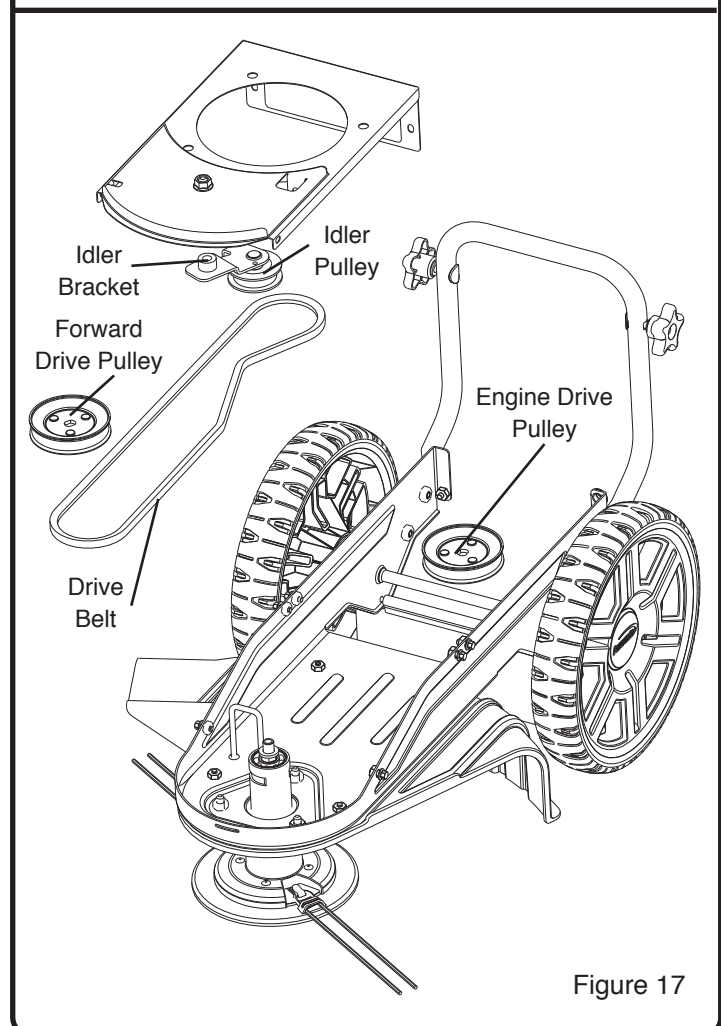

Figure 17
5. Remove the flange nut holding the idler pulley to the idler bracket. (See Figure 17)
9. Check the routing of the drive belt. Make sure the drive belt is inside of all belt guides and that the belt is not twisted. (See Figure 17)